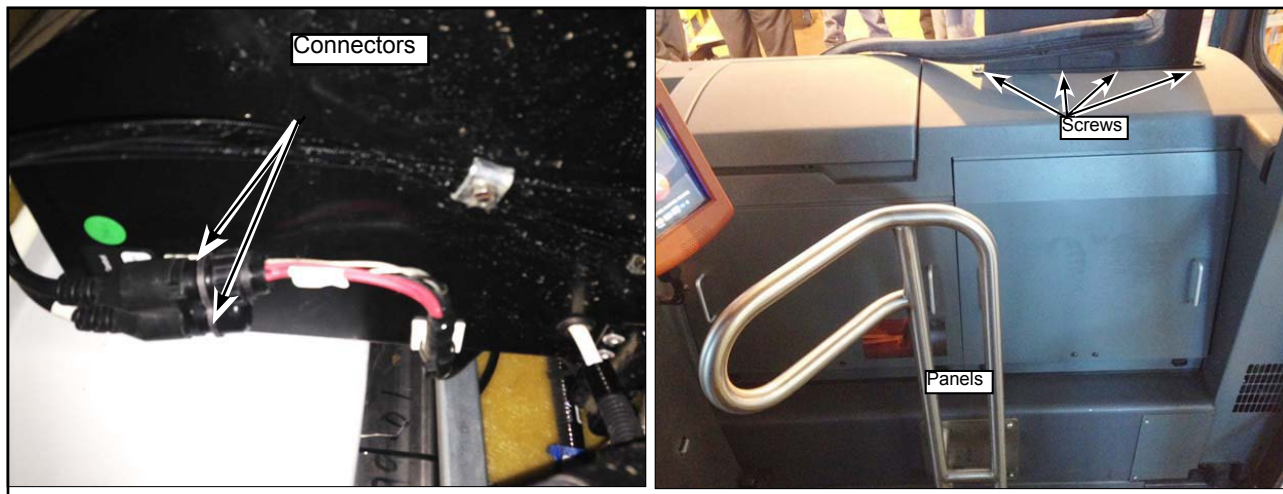

Figure 31 - Install Run Number Box and Connectors
- 1.32. Reinstall the run number box with the four retained screws and hook up the electrical connections under the dash (see Figure 31).